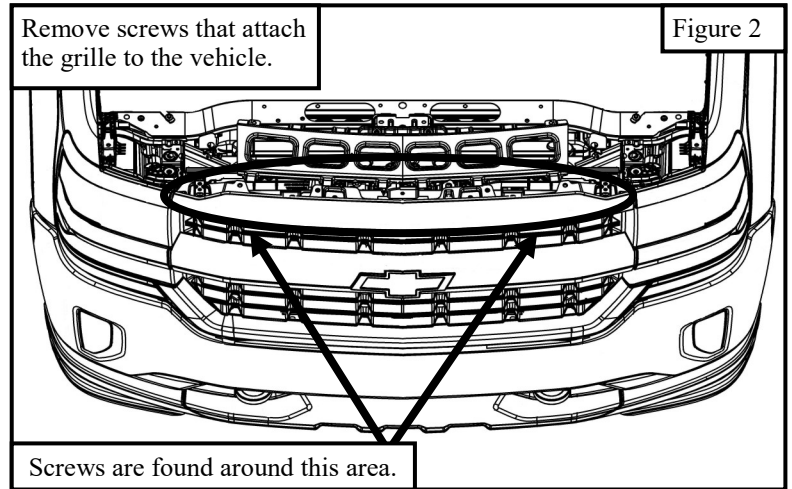

Figure 2
3. Remove the screws that attach the grille to the front of vehicle. Carefully pull the grille off the vehicle. See Figure 2.